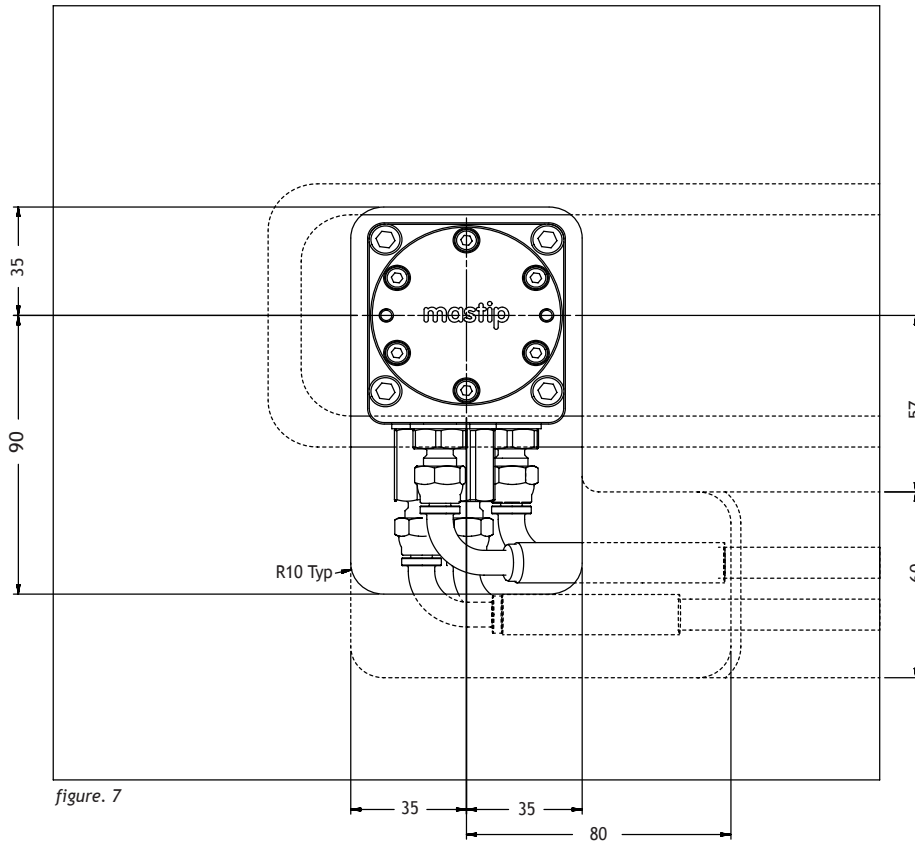

figure. 7
1. Verify the actuator pockets and hose channels are machined in the back plate as shown in figure 7.